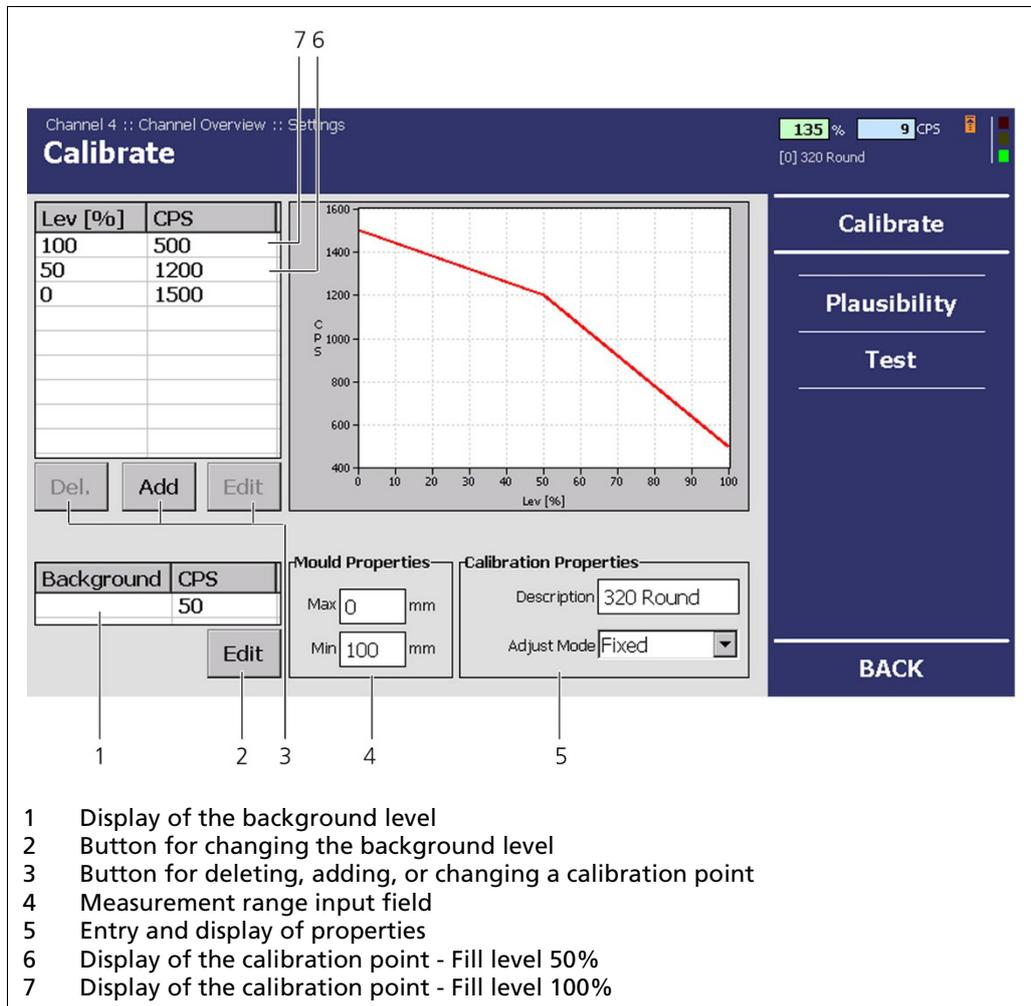

Fig. 56 "Channel Overview" Menu, Settings - Calibration
- ▶ The input field "Edit Calibration Point" opens (Fig. 56).
4. When you add a new point, click on the input field "Detector Value" (Fig. 56, Item 1) and enter the corresponding fill level (e.g. 50% or 100 mm).
5. Click on <Read in> (Fig. 56, Item 3) to read in a new calibration point or enter the count rate into the "Detector Value" input field manually (Fig. 56, Item 1).